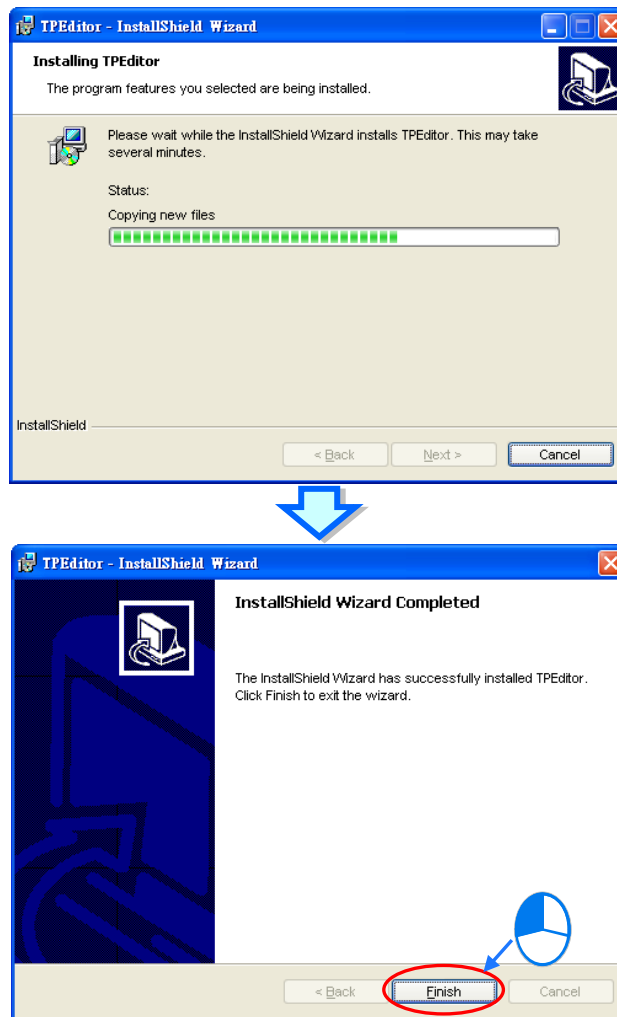

Figure 1-6 Completing the installation of TPEditor
(8) After TPEDITOR is installed, shortcuts to the program are created on the desktop and the **Start** menu. Click **Finish** to complete the installation, as shown in Figure 1-6.